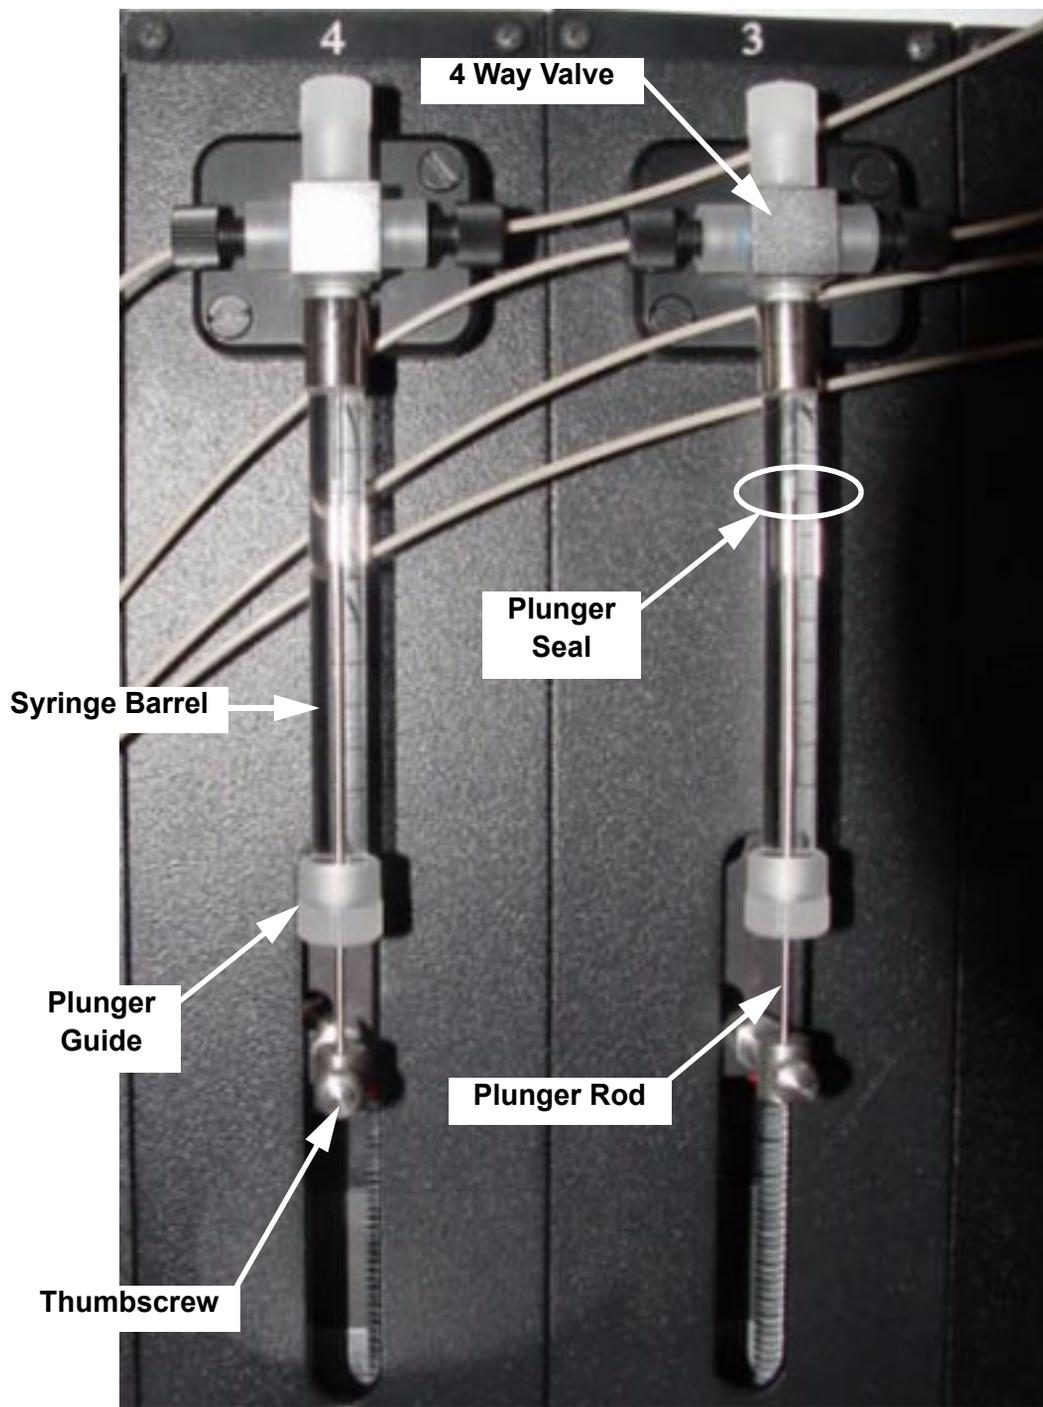

Figure 10-20. Syringe Mounting.
4. Rotate the body of the syringe about a quarter of a turn to disconnect it from the valve at the top (Figure 10-20).